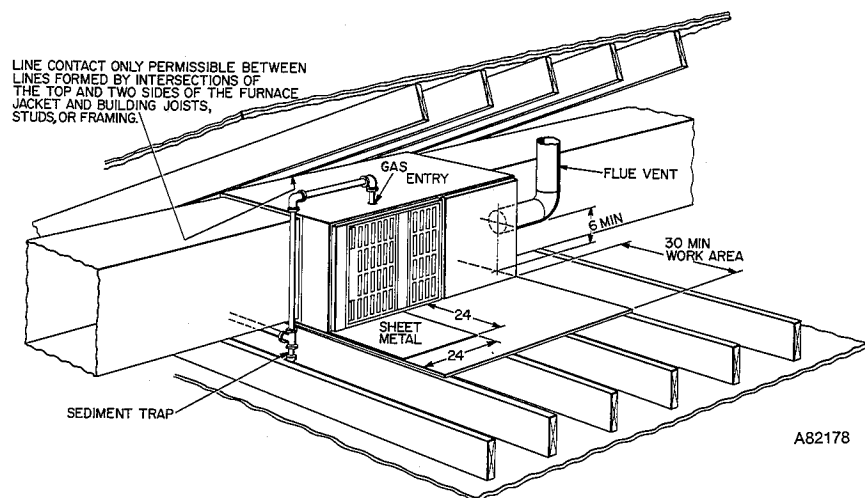

Fig. 7—Typical Attic Installation
The furnace can be installed horizontally on either the left-hand (LH) or righthand (RH) side. A typical attic installation is shown in Fig. 7.
1. Construct working platform on location where all required furnace clearances are obtainable. See Table 1 and Fig. 7.
2. Connect gas supply pipe, see Fig. 7 for typical piping entry.
4. Install 24- x 24-in. sheet metal shield on platform in front of louvered control panel, as shown in Fig. 7.